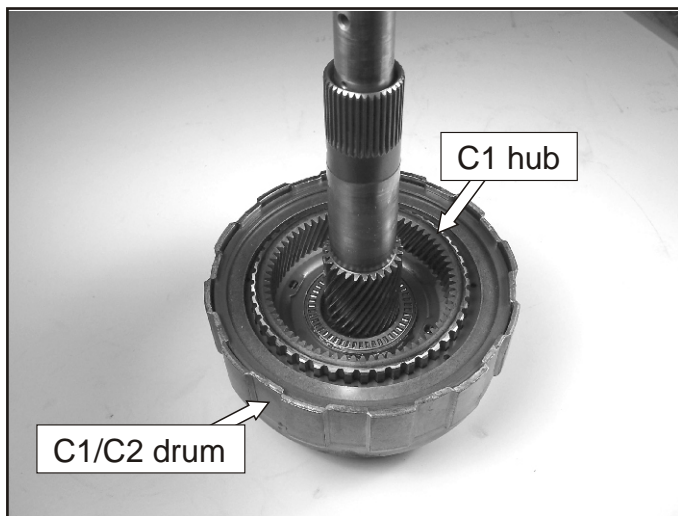

Figure 247
- 175. Index the C1 hub into the C1 clutches shown in Figure 247.